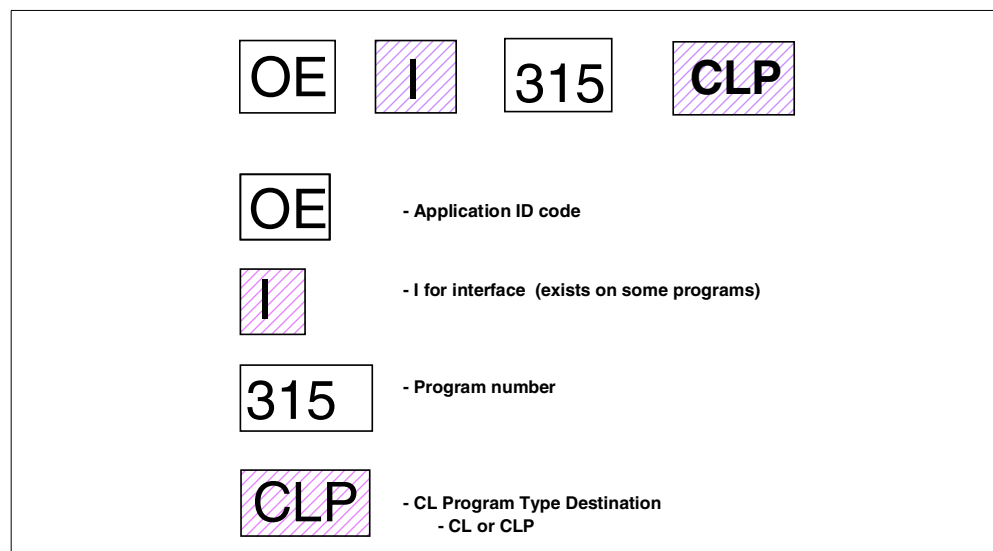

Figure 226. Program naming convention
- **Programs:** Figure 226 illustrates the naming convention for program objects.